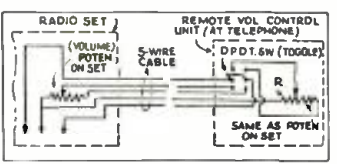

Fig. 5. Remote volume control.
**REMOTE VOLUME CONTROL.** It is very handy to have a remote control for the radio receiver situated at the telephone or any other point, so that the control on the set may be cut out at will and the remote control substituted. This is easily done by the use of the circuit in Fig. 5. A volume control of the same type as that used on the set is needed, as well as a D.P.D.T. switch (to select either volume control).